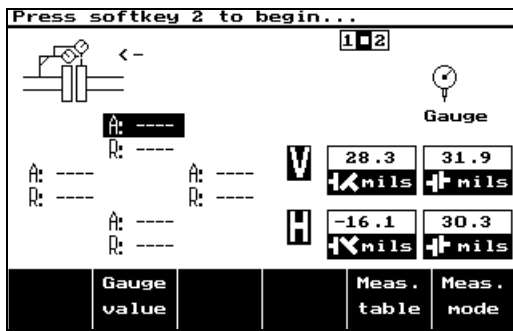

Figure 2
3) Press the **Gauge value** softkey (see Fig. 2).